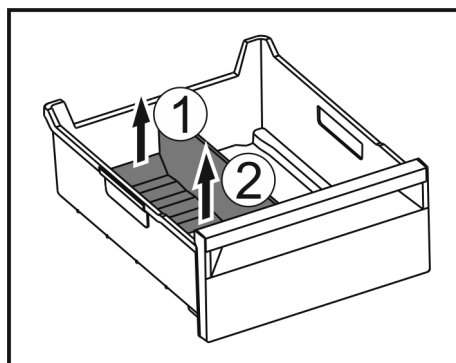

Fig. 54
- Lift the rear part of the ice compartment divider. Fig. 54 (1)
- Remove the ice compartment divider upwards. Fig. 54 (2)